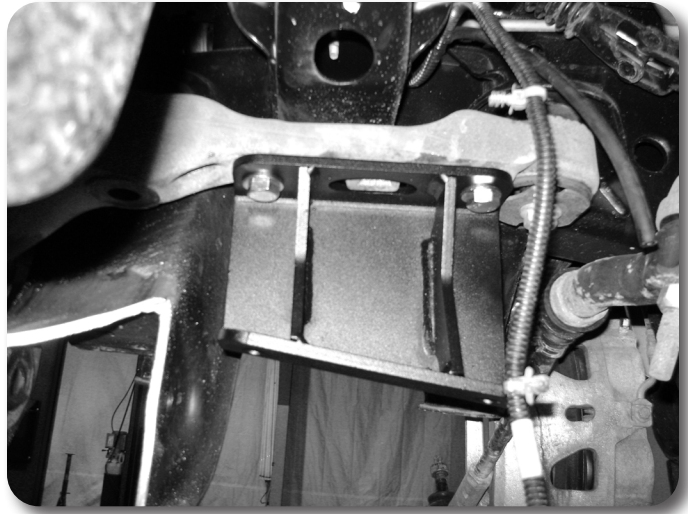

Figure 29
42. Locate the new driver's side differential bracket. Bracket has two center gussets. Install the bracket to the 2 front original differential mounting holes with the provided 12mm-1.75 x 40mm bolts and 1/2" SAE washers, applying Loctite to the threads before installation. When installed the open side of the bracket will face inward and the bracket will taper down as it goes to the rear Figure 29. Torque bolts to 65 ft-lbs.